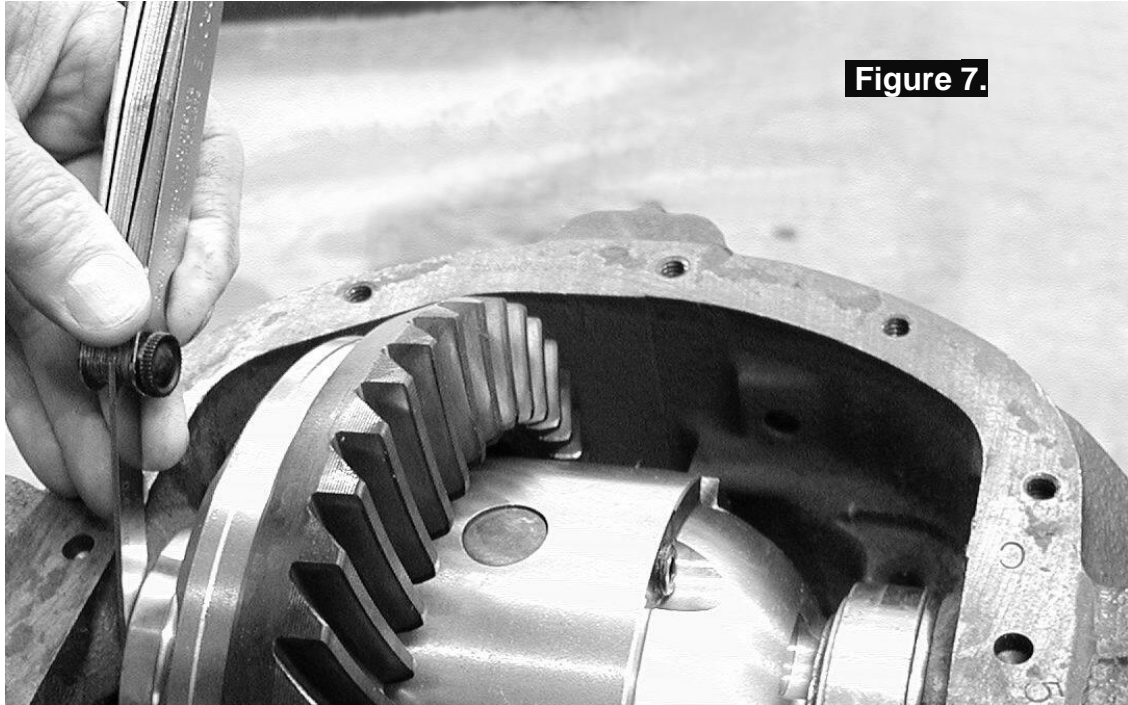

Figure 7.
- Push (or lightly pry) the *Air Locker* hard across to the right-hand side, and measure the gap (also called the 'end float') between the seal housing and the housing with a feeler gauge (See Fig 7.).